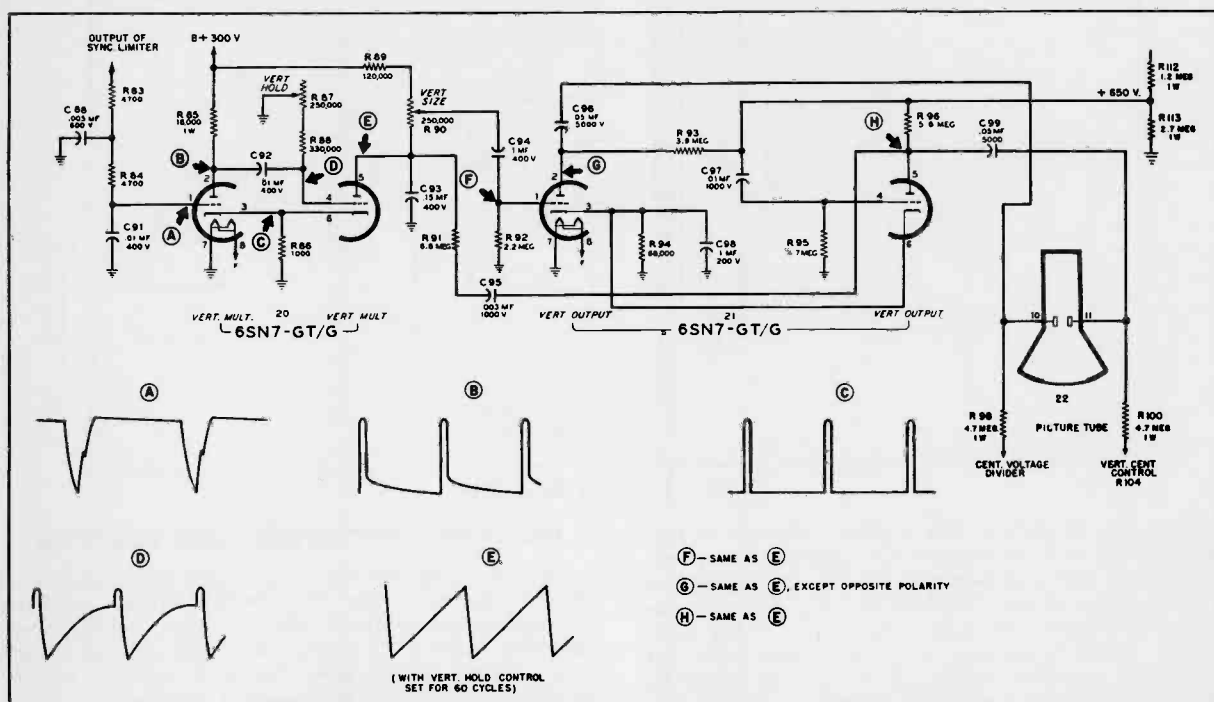

Figure 14. Vertical Sawtooth Generator and Sweep Amplifier
The vertical sawtooth generator (see figure 14) uses a type 6SN7 tube (20) as a conventional cathode-coupled multivibrator with an integrating circuit (R83, C88 and R84, C91) feeding sync pulses to the first grid (pin 1). The vertical multivibrator can be easily adjusted with vertical hold control R87 to sync at 60 cycles.